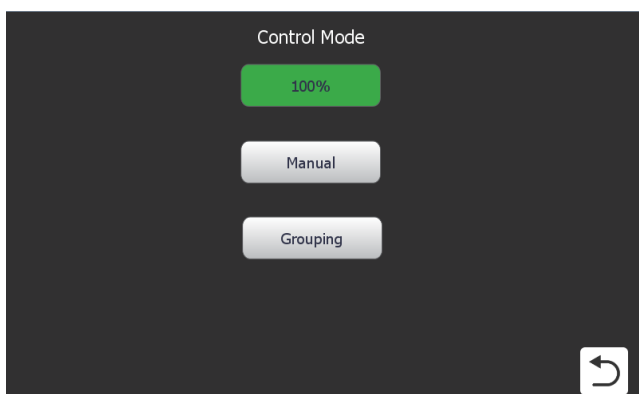
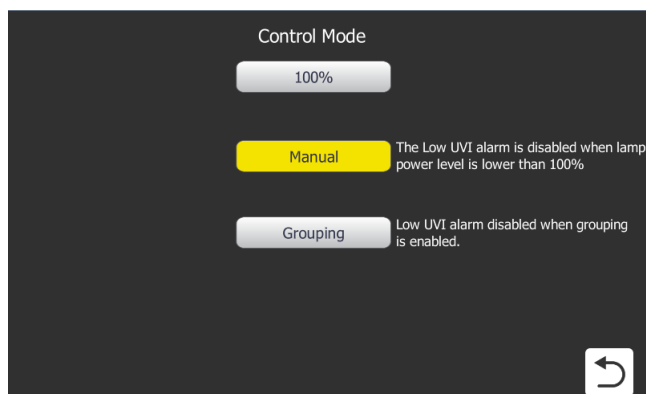

Figure 15 Control Mode Screen - 100%
Figure 16 Control Mode Screen - Manual
1. Set the control mode to either 100% or Manual (refer to Figure 15 and Figure 16).
2. Select the Grouping button (refer to Figure 15 and Figure 16) to open the Grouping Settings Screen.